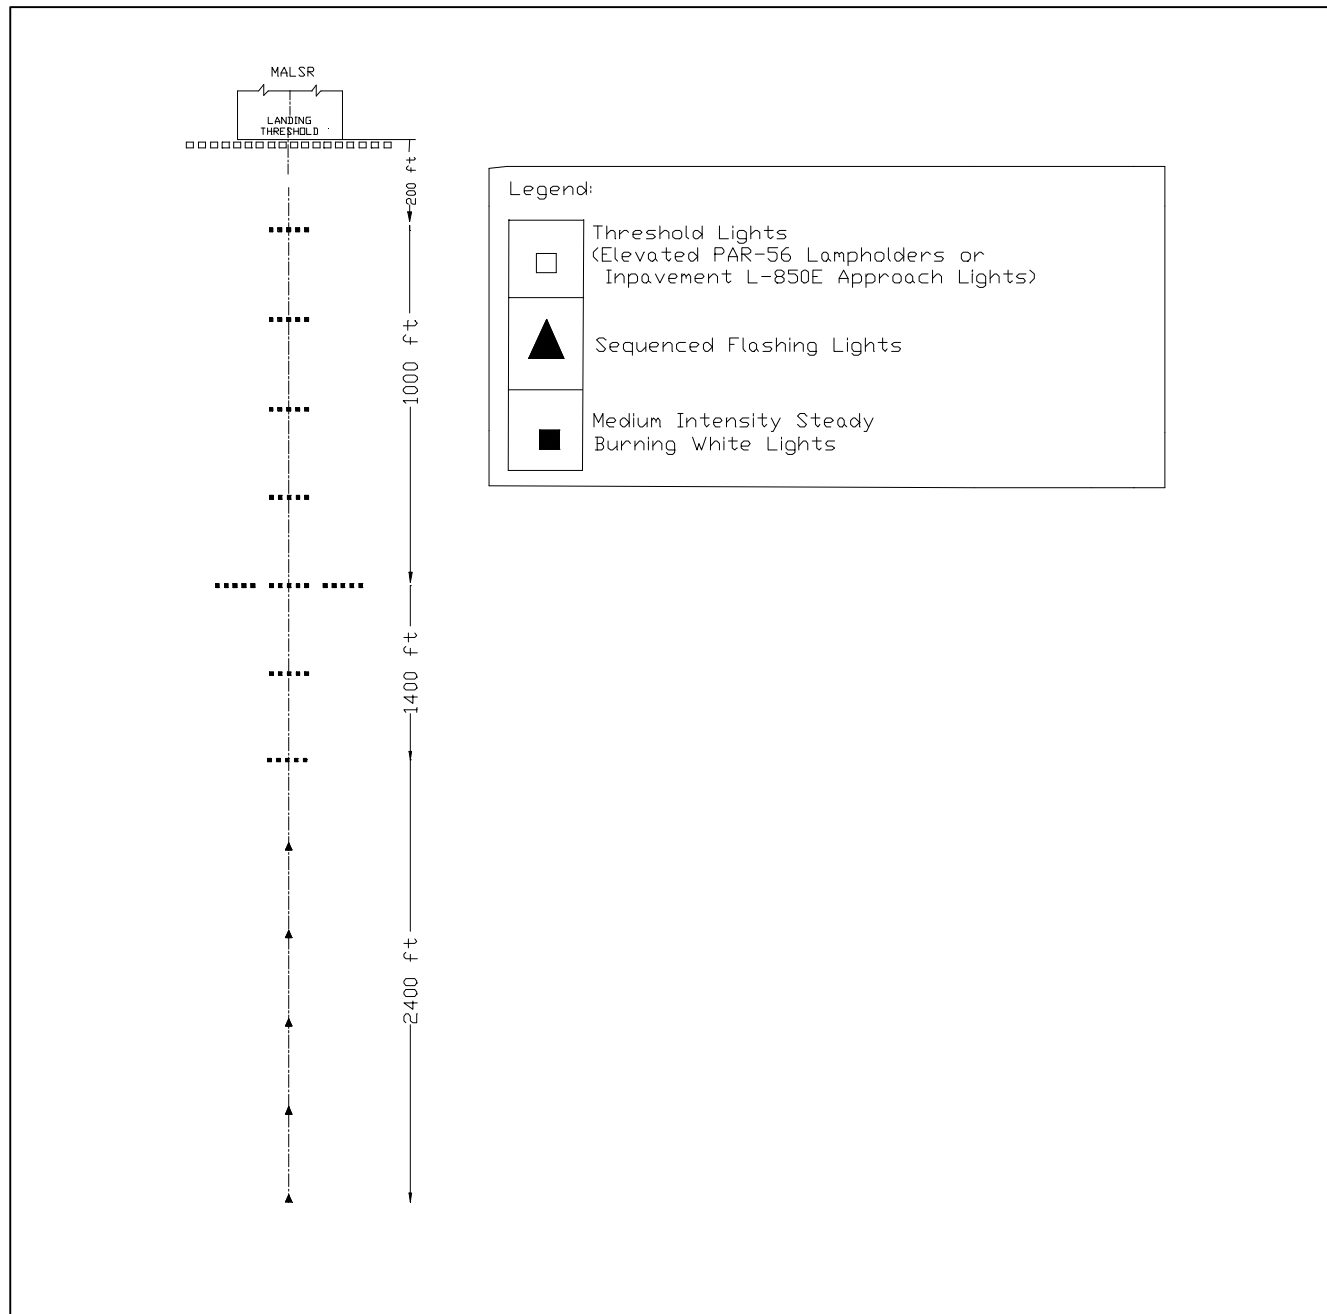

Figure 3. MALSR System
- precision Category I medium intensity approach lighting system, runway alignment indicator lights (MALSLR). See Figure 3.